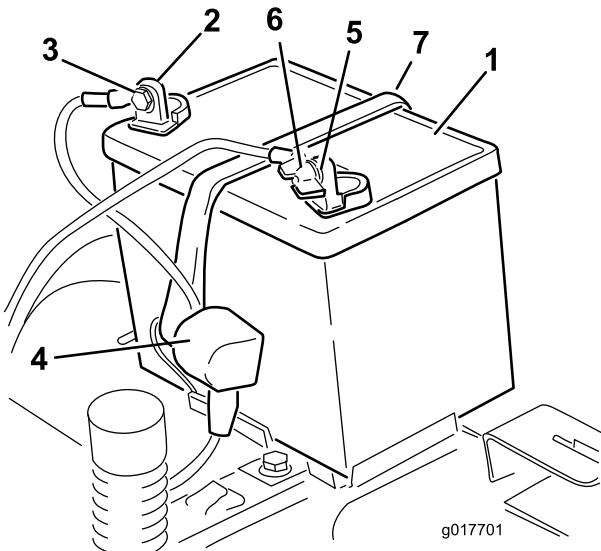

Figure 39
- Disconnect the negative (black) ground cable from the battery post (Figure 39).
- Disconnect the positive (red) cable from the battery post (Figure 39).
- Remove the battery hold-down and lift the battery from the battery tray (Figure 39).
1. Position the battery in the tray (Figure 39).
5. Secure the battery with the hold-down (Figure 39).